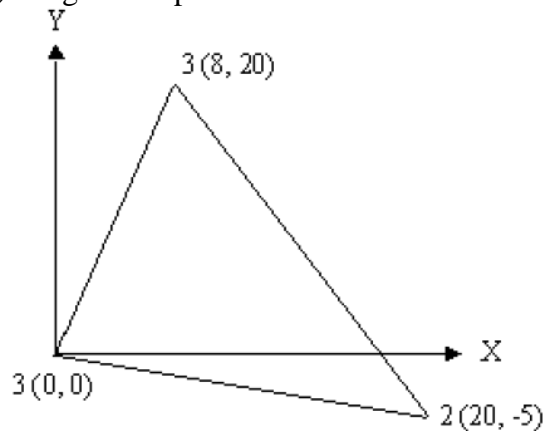

Figure P8.4
4. The nodal displacements for the simplex two-dimensional element shown in the **Figure P8.4** given below are $u_1 = 2$ mm, $u_2 = 6$ mm, $u_3 = -1$ mm, $v_1 = 4$ mm, $v_2 = 5$ mm and $v_3 = 8$ mm. Determine the displacement components at an interior point B (10,10). The nodal coordinates (in mm) are given in parenthesis.